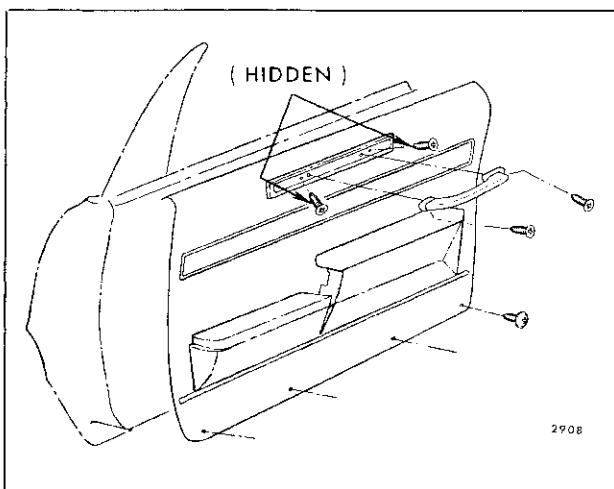

Fig. 14-9—Door Trim Panel and Pull Handle Retention
- NOTE:** On Buick 48400 and 49400 series, screws hidden under pull handle must be removed to permit trim pad removal (Fig. 14-9).